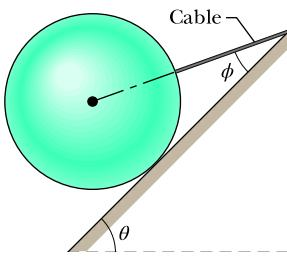

Figure 12.52 Problem 57.
**57 GO** In Fig. 12.52, a 10 kg sphere is supported on a frictionless plane inclined at angle  $\theta = 45^\circ$  from the horizontal. Angle  $\phi$  is  $25^\circ$ . Calculate the tension in the cable.